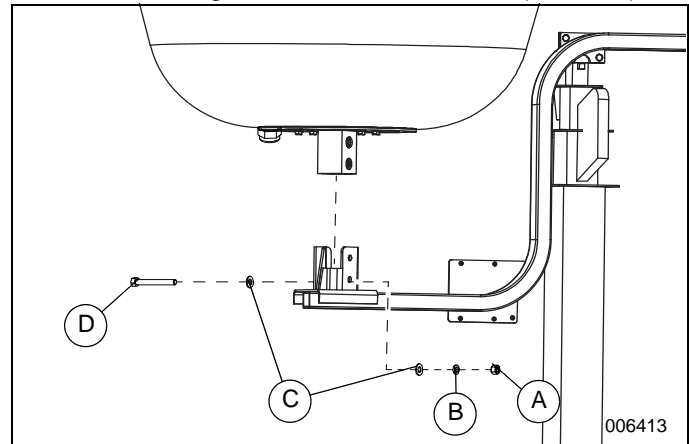

Figure 11. Light-to-Bracket Installation
- See **Figure 11**. Install light fixture to mounting weldment. Tighten hardware to 43 ft-lb (58.3 Nm).
- See Figure 11. Install light fixture to mounting weldment. Tighten hardware to 43 ft-lb (58.3 Nm).